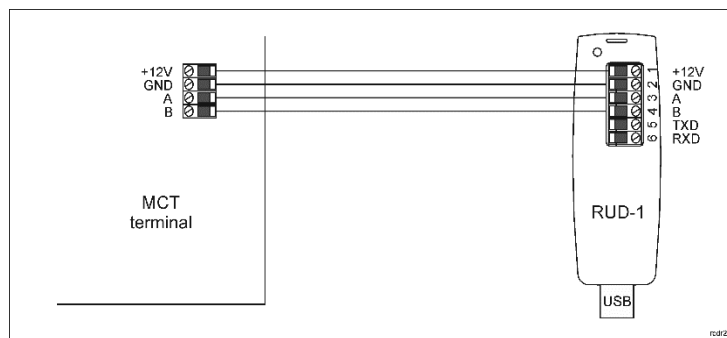

Fig. 1 Connection of MCT reader to RUD-1 interface (configuration)
1. Connect the device to RUD-1 interface (fig. 1) and connect the RUD-1 to computer's USB port.